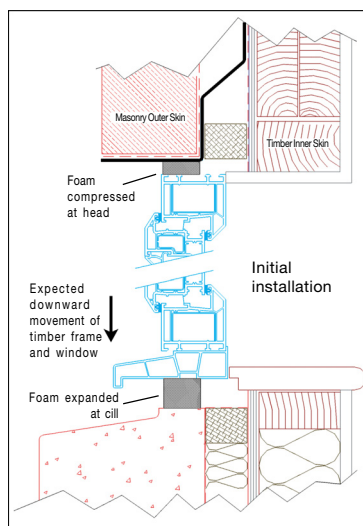

Fig 1 - Location of Timber Max at initial installation
- Before installation, measure the width of the joint and ensure the total movement, after any settlement, is within the capacity of the selected tape size (Fig 1 & 2).